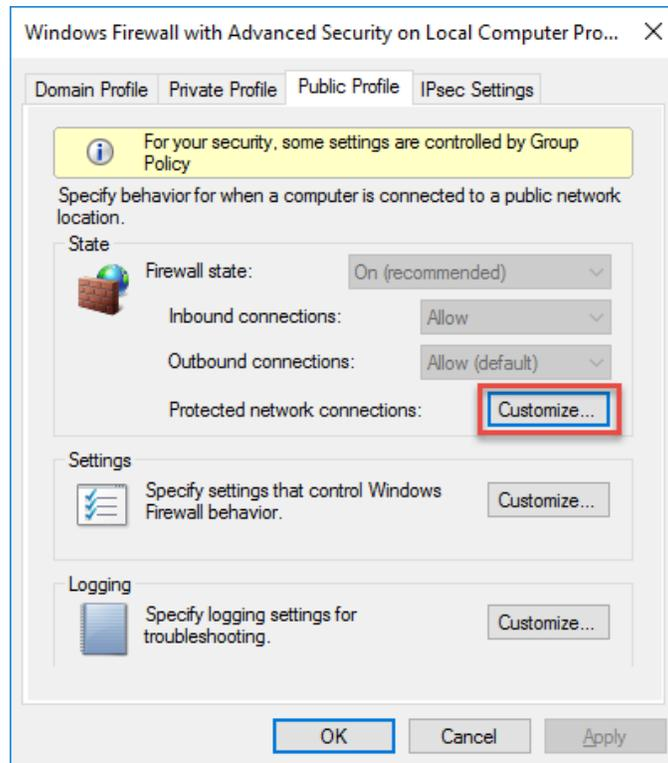
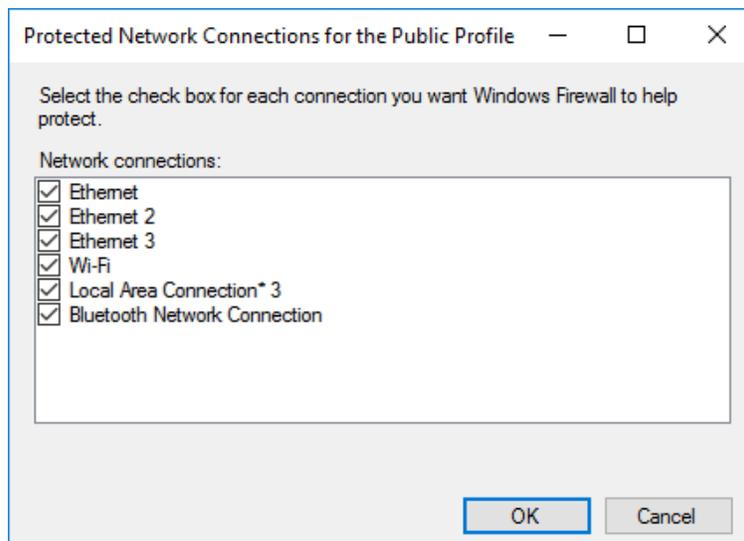

Figure 124: Windows Firewall Properties
Figure 125: Protected Network Connections
4. Click **Customize** to open the **Protected Network Connections for the Public Profile** window. The window lists connections where the firewall is enabled (see Figure 124 and Figure 125).